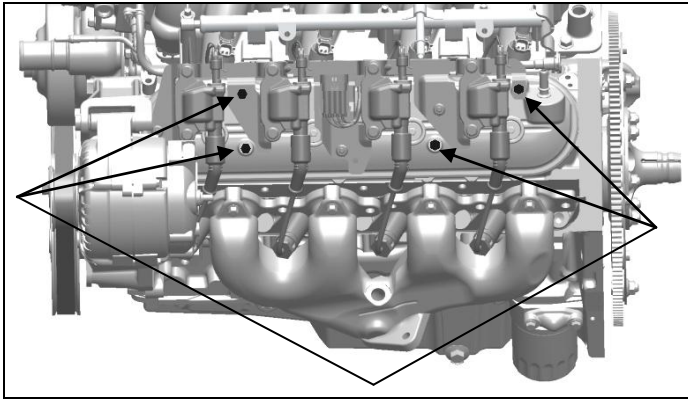

Figure 6
- B. Use an 1 3/4" hole saw in the location marked on the inside of the covers intended for the passenger side. The center pilot is marked and should be first drilled with a 1/8" or smaller bit to better center the hole saw (**Figure 6**).